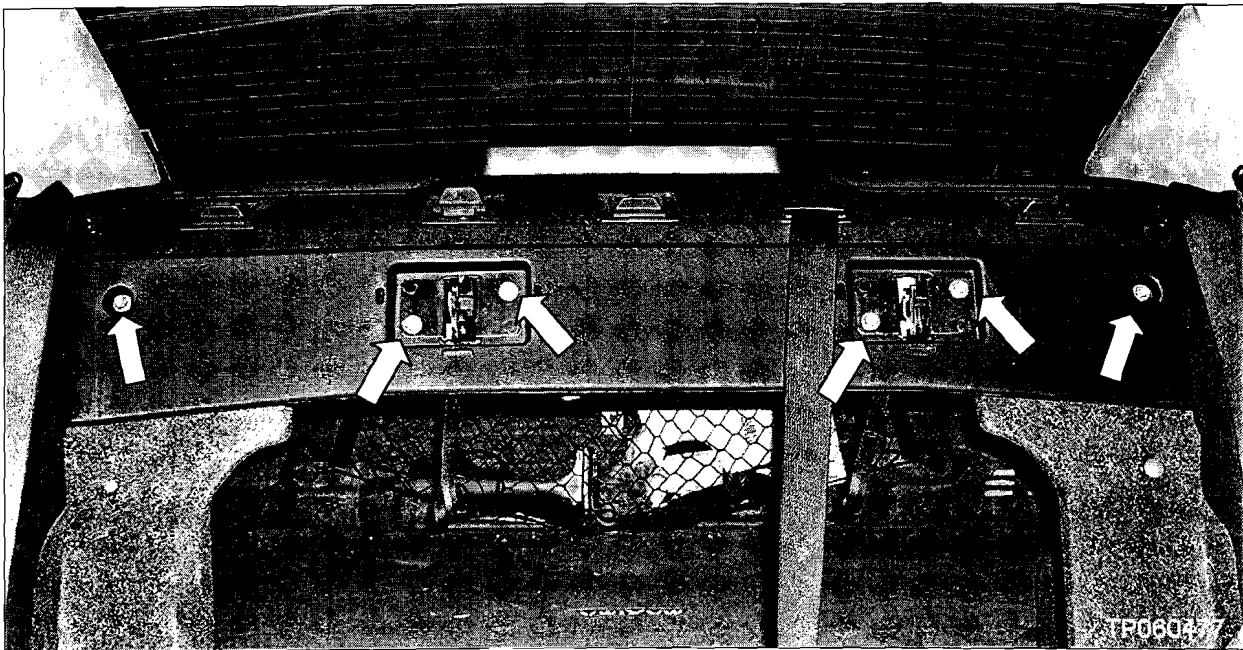

Figure 6
d. Remove the 6 bolts shown in Figure 6.